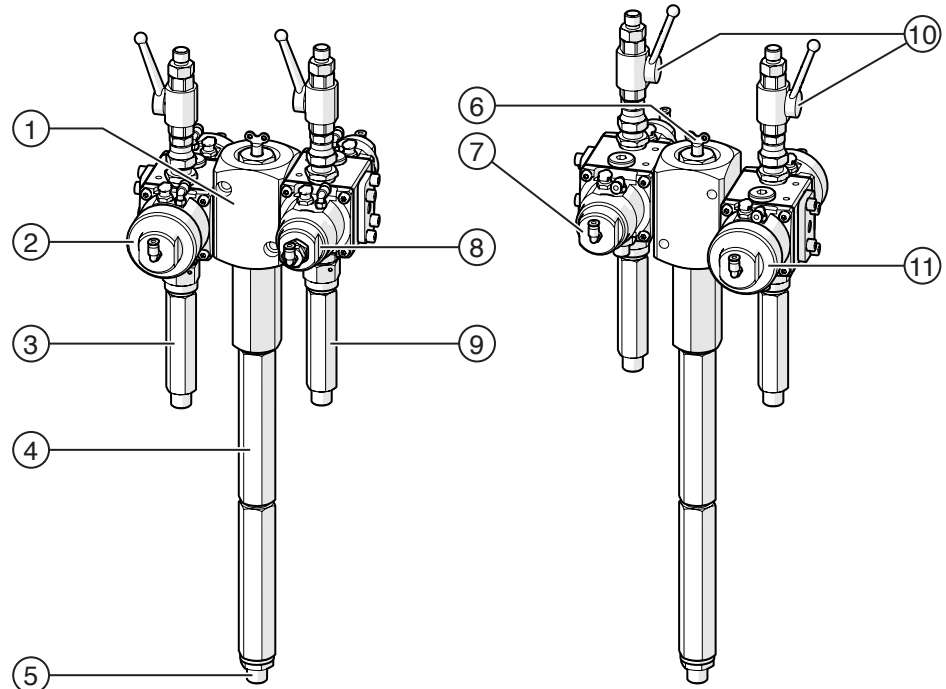

Fig. 15: Front and rear view of the standard mixing unit
* Fig. 15 shows a standard mixing unit which is designed for processing one A-component and one B-component each. For mixing units which can process several A-components and/or B-components, the corresponding number of additional automatic metering valves is mounted on the side of the A-component and/or the B-component.